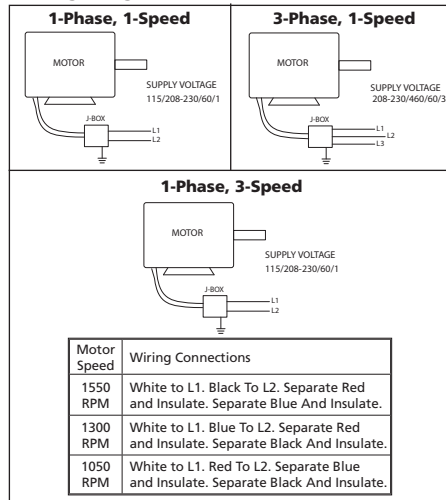

Figure 3 — Typical Wiring Diagram Operation
8. Mount and wire safety disconnect switch under ventilator cover and wire motor per connection wiring diagram on motor. See Electrical Connection, Figure 3. Wire control switches at ground level.
NOTE: Refer to Figure 3 for connection wiring diagram.